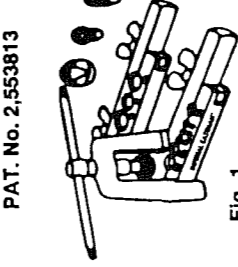

Fig. 1
2. Select the proper size swaging spreader and screw it on to the yoke screw. Place a drop of oil on the spreader. NOTE that the small spreader (see A, Fig. 1) takes care of 3 sizes,  $3/16$ ",  $1/4$ " and  $3/8$ " O.D. tubing. There is a separate spreader for every other size.